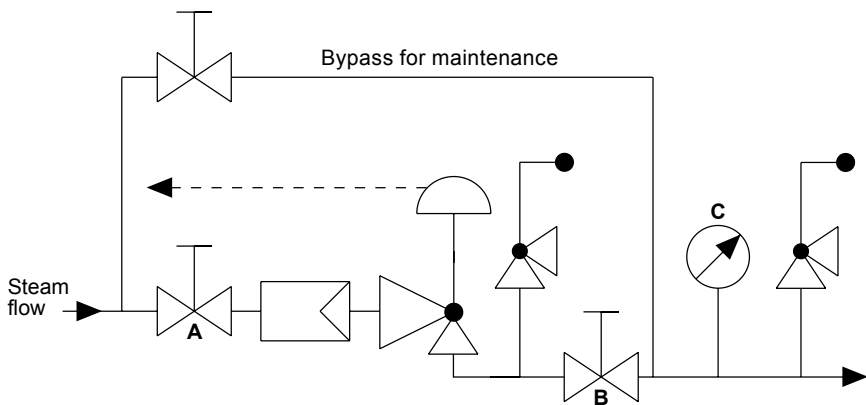

Fig. 5 Isolate the valve
- Isolate the valve, first closing the upstream isolating valve (A) and then the downstream isolating valve (B). Check that the pressure is zero (C) and allow the valve to cool (see Figure 5).